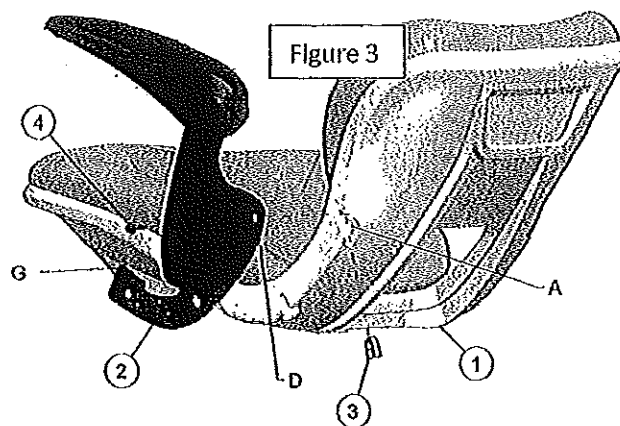

Figure 3
3. Hold left-hand armrest assembly (2) up to left side of seat, setting hook G of bracket on top of plastic seat surface. See Figure 3.
4. Insert screw (4) through hole in armrest bracket and start threading it into the armrest nut (3).
5. Use screwdriver (5) to hold nut against rotation. Use 3/8-inch wrench or ratchet to turn screw (4) 3-4 rotations. Do not fully tighten screw at this time.